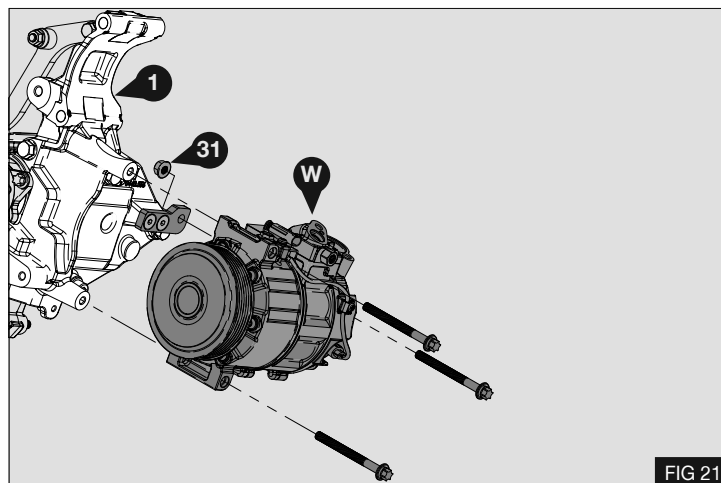

FIG 21
24. Fit the AC compressor (W) using the original bolts to bracket (1). Use the supplied nut (31) to secure the rear fastener.
25. Torque the 3x bolts to 25Nm / 18 lb-ft - Fig 21